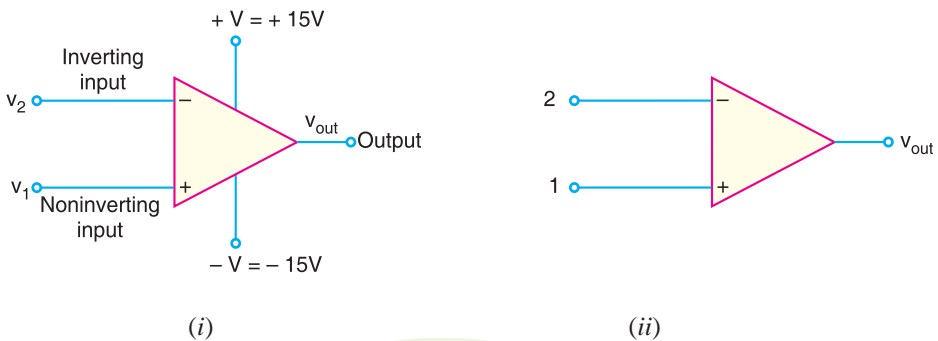

Fig. 25.39
- (iv) For the sake of *simplicity, + V and - V terminals are often omitted from the symbol as shown in Fig. 25.39(ii). The two input leads are always shown on the symbol regardless of whether they are both used.